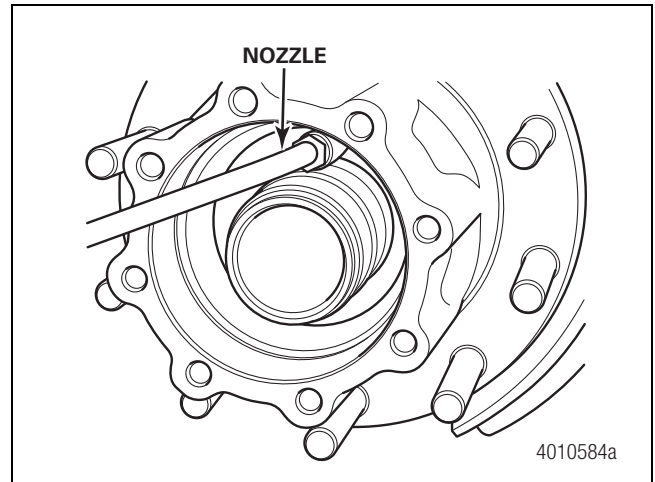

Figure 13.5
4. Insert a filling nozzle into the hub cavity and fill with approximately 6-9 oz. (177-266 ml) of axle lubricant. Figure 13.5.